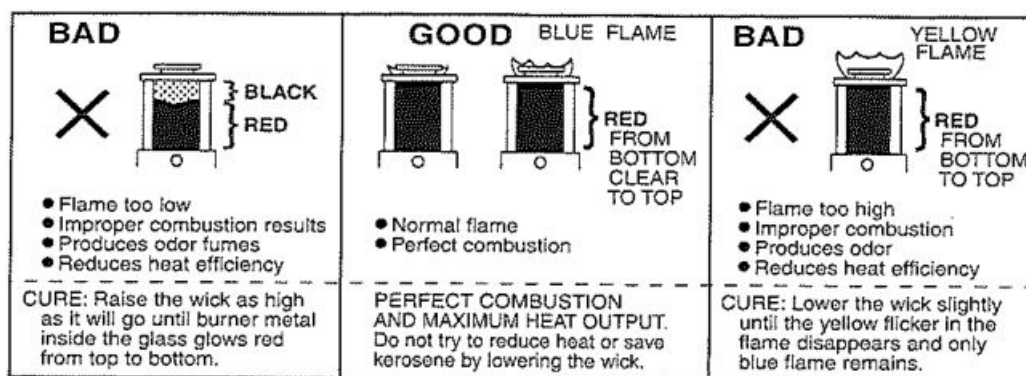

Fig. 15
If the ignition lever has been adjusted all the way up (wick height at minimum height) and the flame is still too high according to Fig. 15, shut off the heater and contact us at an- Get HEAT (877-438-4328), or e-mail: [getheat@sengokula.com](mailto:getheat@sengokula.com). If you continue to use your heater with bad combustion, soot and/or Carbon Monoxide (CO) emissions will result.